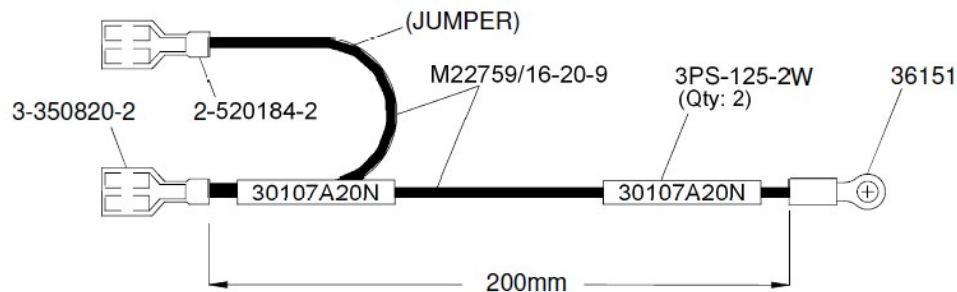

Figure 16: Preparation of Ground Wire for the PITOT HEAT Rocker Switch
11.2.3.2 Prepare the ground wire according to Figure 16.